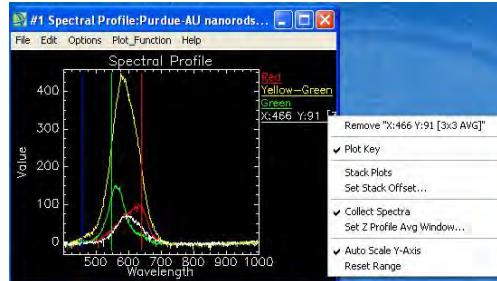

Figure 21. Window to collect spectra from multiple regions
- a. Select "Collect Spectra". A new curve is added to the plot each time a new area of the image is clicked. (see Figure 21)